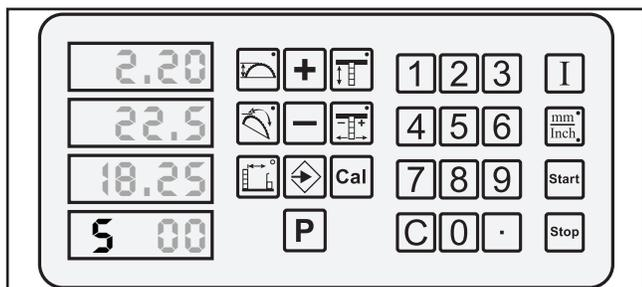

Figure 16. "S" displayed on control panel to indicate system is ready to save settings.
2. Press and hold the memory set  key until "S" displays in the blade speed display and the other numbers flash, as shown in **Figure 16**.